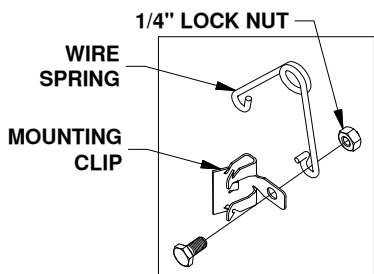
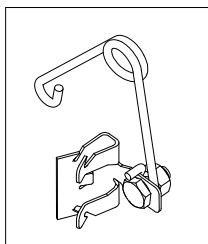

Figure E1:
Figure E2:
1. Locate the 1/4" cap screw and nut, along with the wire tension spring and mounting clip. Pass the 1/4" cap screw through the mounting clip and the wire spring as shown in figure E1. Thread the 1/4" lock nut onto the 1/4" cap screw. Tighten the lock nut just enough that the spring will stay in place but will still be able to rotate around the bolt if needed, see figure E2.